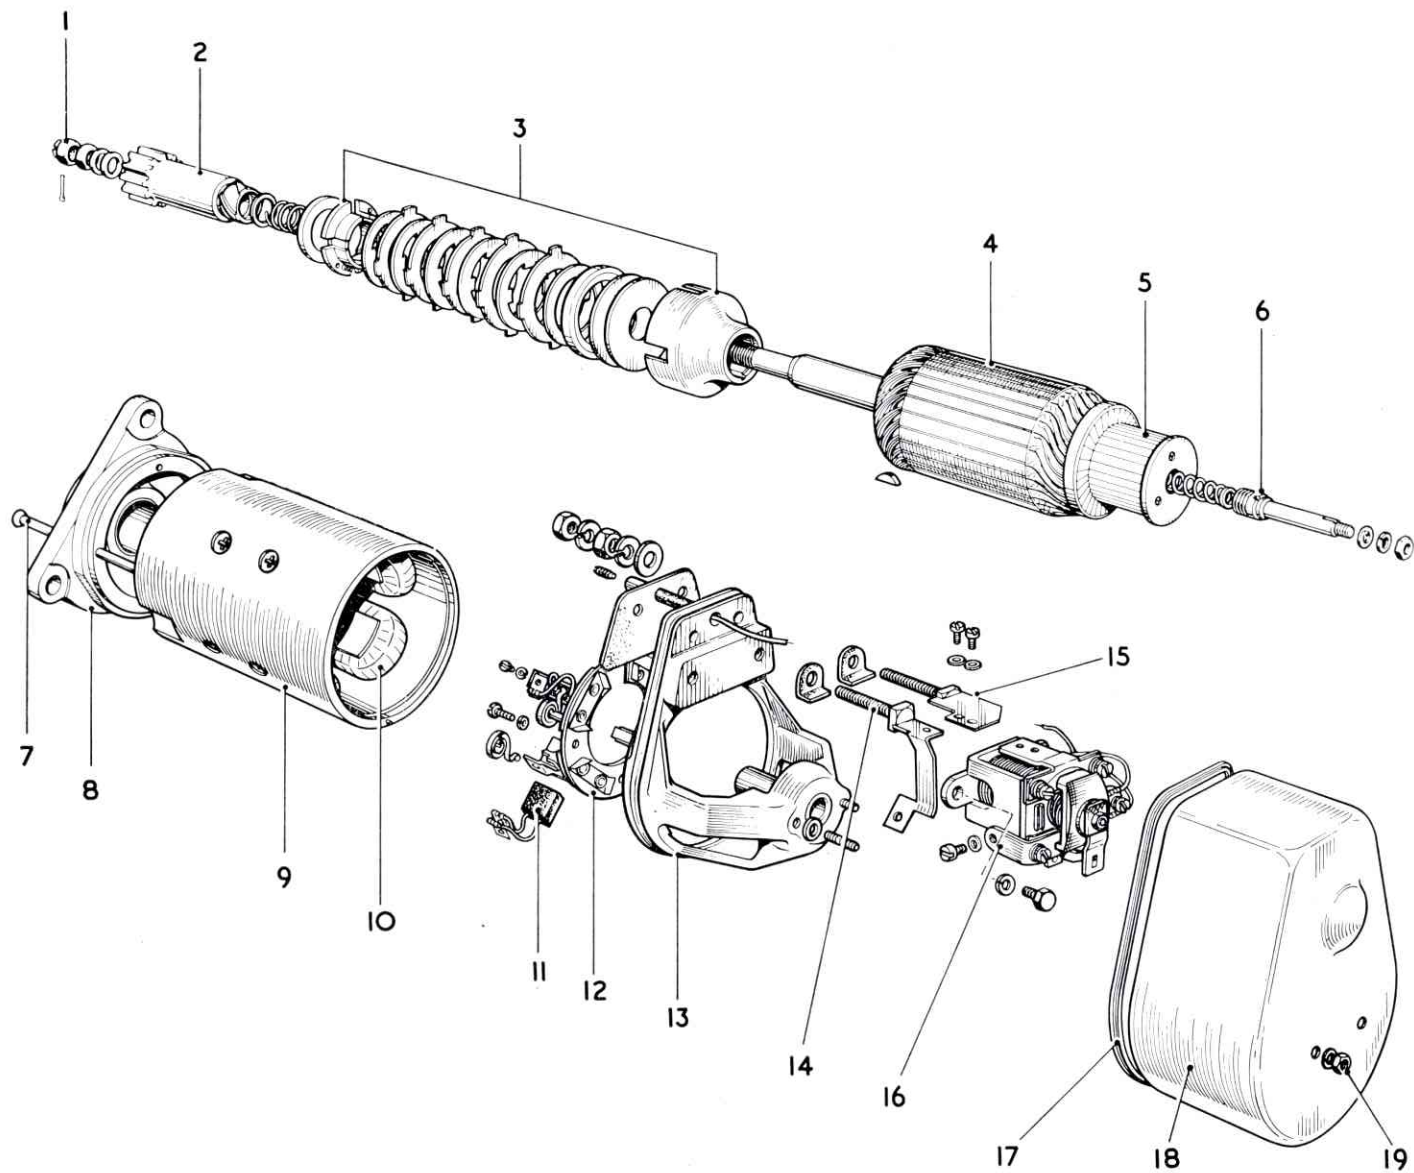

FIG. 125. EXPLODED VIEW OF THE STARTER MOTOR
5. If starter crashes into engagement, the switch trigger Fig. 125 and plate may be worn on the step and slotted portions.
- Remove nuts and take off commutator end cover, see Fig. 125.
- Remove screws securing positive terminal connector, Fig. 125, main and auxiliary field connections to switch.
Remove pole screws, see Fig. 125, and take off field coils. Pole pieces are marked 1, 2, 3 and 4 to correspond with numbers on the commutator end of yoke. They must be replaced in the same positions.
1. Remove split-pin and castellated nut, Fig. 125, from shaft.